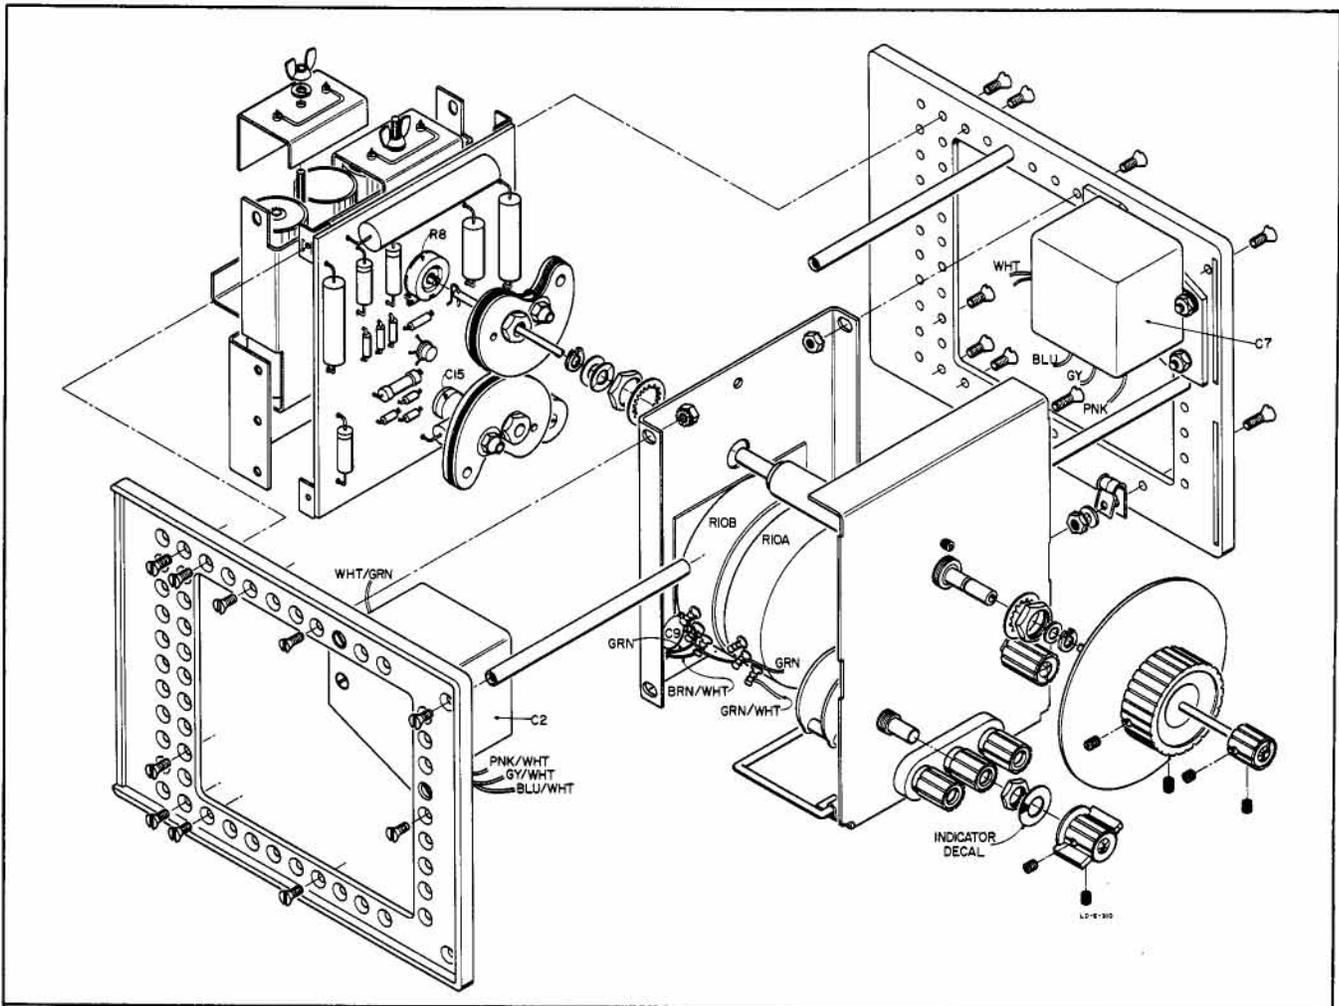
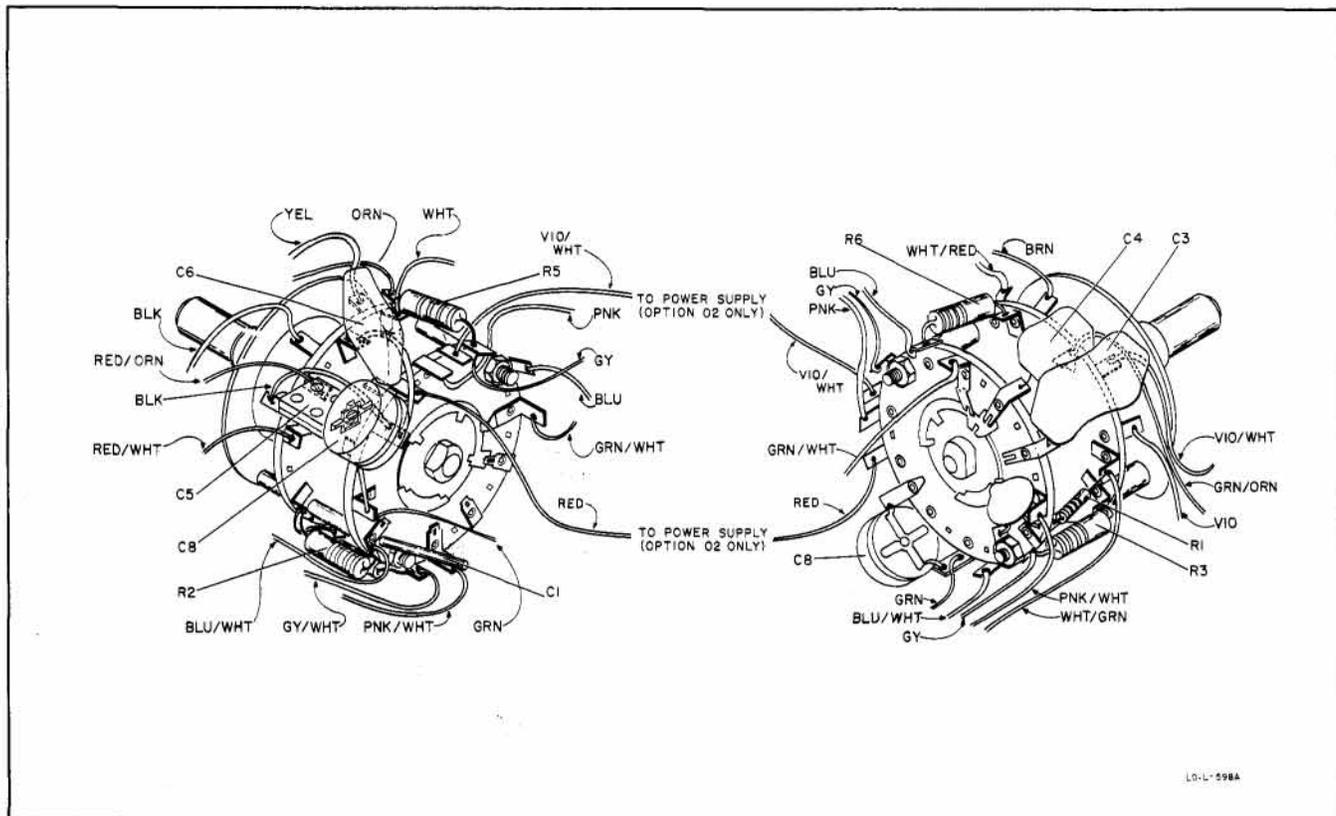

Figure 5-4. Model 204B, Exploded View
Figure 5-6. Range Switch Detail
5-11. When repairing the Model 204B, use the exploded view, figure 5-4, as an aid to identifying parts.
- k. Set RANGE to X10K, FREQ. to 5 (50 kc), and adjust C8 (figure 5-6) to obtain a 50-kc output.
- m. Set FREQ. to 56 (560 kc), and adjust C15 (figure 5-4) to obtain a 560-kc output. If necessary, change the value of C14 for proper range of C15.
5-37. To aid in replacing the RANGE switch assembly (Stock No. 204B-95D, refer to the exploded view, figure 5-4, and range switch detail, figure 5-6.
- e. Solder leads to replacement switch using figure 5-6 as a guide for correct lead connections.